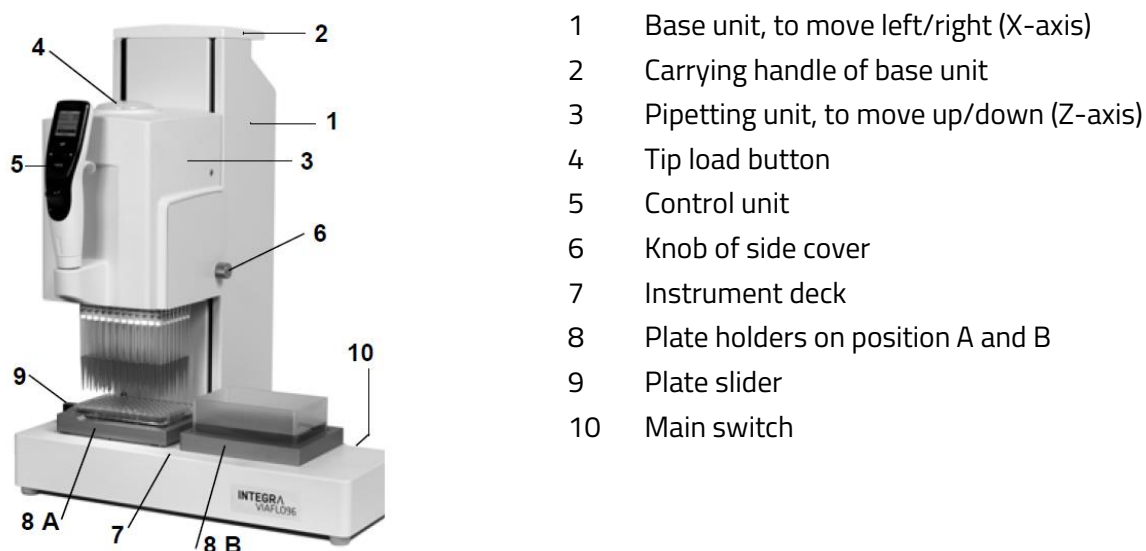

Figure 10. INTEGRA VIAFLO 96/384 device
The unique design of the Akura™ 96 Plate enables the use of multi-channel pipetting systems for parallel liquid handling without the risk of spheroid loss. We recommend the INTEGRA VIAFLO system as it is a compact, easy-to-use semi-automated pipette with 96 channels (Figure 10) for increased productivity.
*See Figure 10 for reference